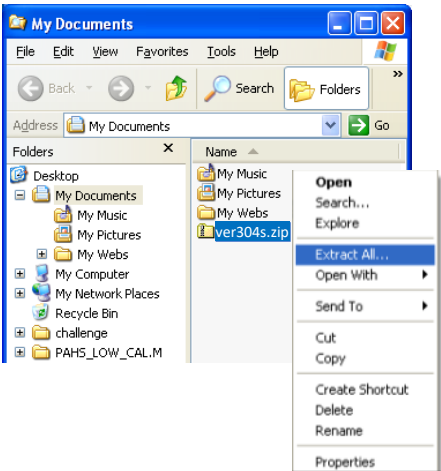

Fig. 4.3
- 4.3 Right-click the saved file, then choose “**Extract All**” (Fig. 4.3).